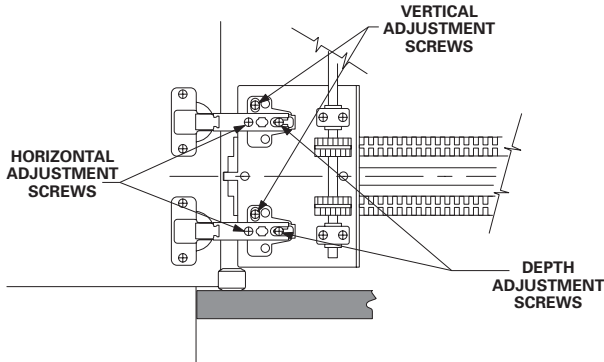

figure 7
- Hinge screws will allow for adjustment of the door in all three directions. (fig 7)